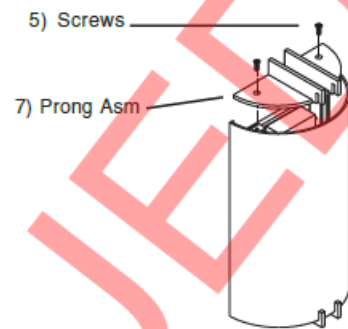

Fig 8
3. Position and hold Diffuser (2) in grooves on installed prong assembly while aligning holes in second prong assembly with holes in top of mounting bracket and secure with Screws (5) See Fig 8..
4. DLSD1, DLSD2, DLSD5, DLSD10, DLSD11, DLSD12, & DLSD16 – Position Diffuser (2) over Mounting Brackets (3) while aligning holes in diffuser with holes in brackets, secure with Screws (5) See Fig 8.